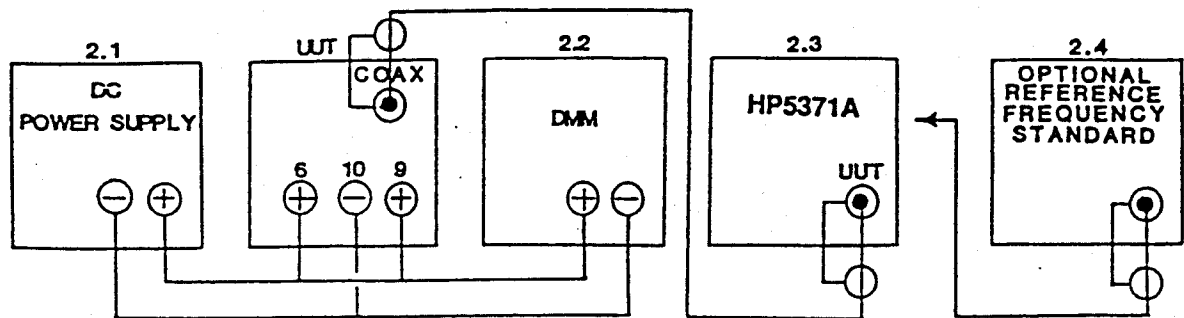

Figure 2-2. Operational Frequency Accuracy Test Setup.
- a) With the equipment connected as shown in Figure 2-2, and the required stabilization time allowed, (refer to NOTE following 2-9b), begin the test.
- a) Connect the equipment as shown in Figure 2-2.